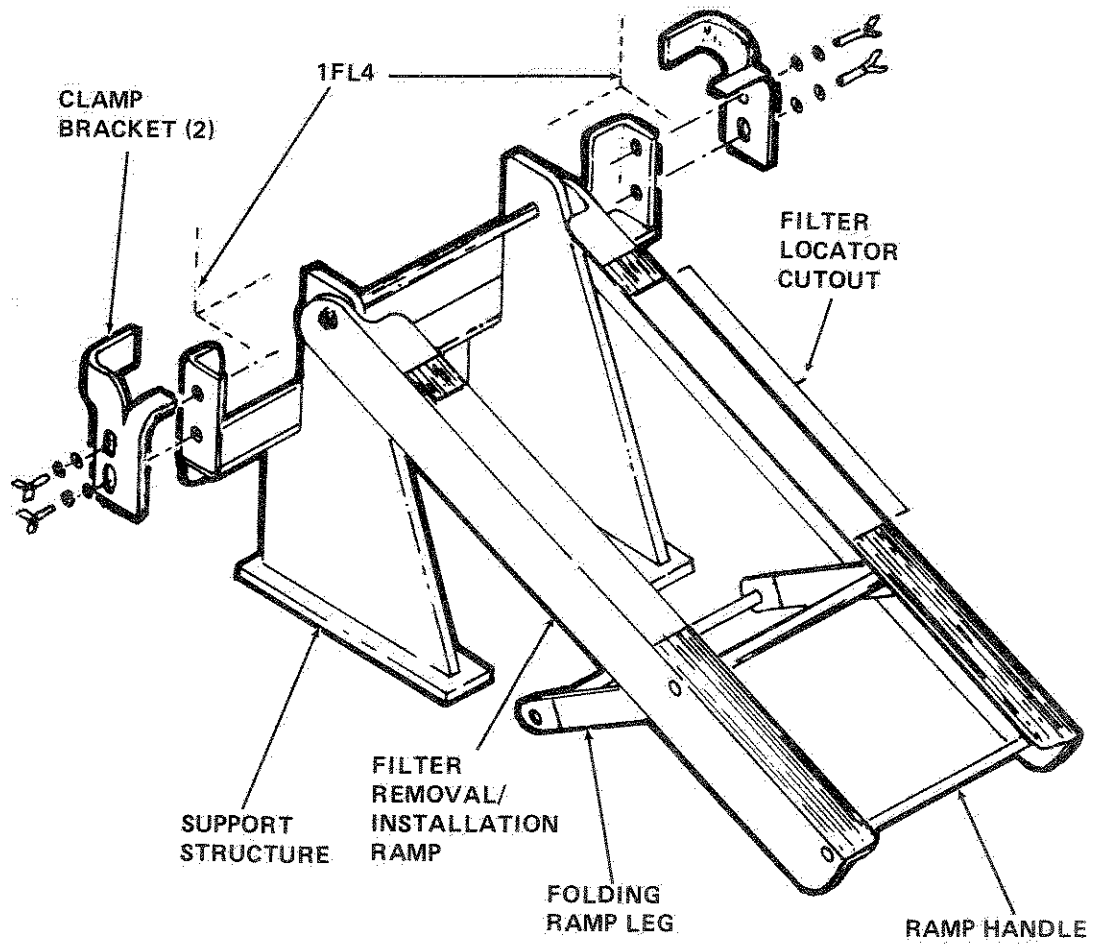

Figure 6-77.1 Filter Removal/Installation Tool
5. Remove wing screws, lockwashers, washers and both clamp brackets from filter removal/installation tool (Figure 6-77.1).